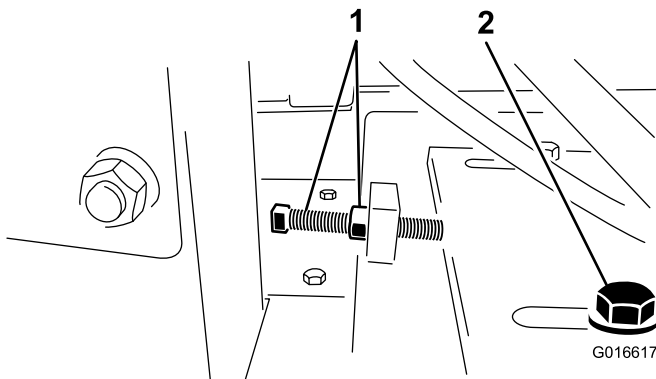

Figure 18
4. Loosen the belt-tension bolt and jam nut, slide the engine toward the flywheel housing to loosen belt (Figure 18).